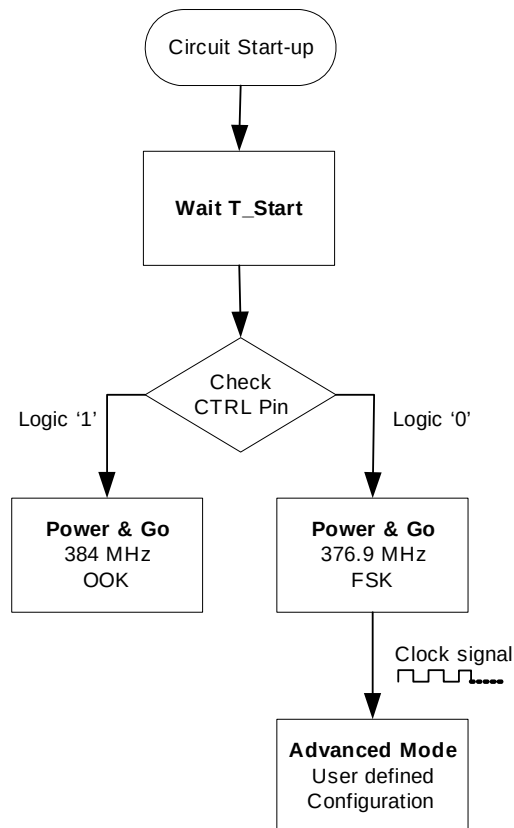

Figure 3. SX1241 Mode Selection
The SX1241 has two application modes. These are selected depending upon the load presented to the Control pin (6) at power-on of the device, as shown on Figure 3. By connecting the Control pin to logical '0' or '1' the 'Power & Go' mode is selected. A full description of operation in this mode is given in Section 3.1. By presenting a logical zero to the Control input, Advanced mode can be accessed by subsequent clocking of the control pin, in conjunction with the Data pin (2) permits programming of the SX1241 configuration register and manual control of the transmitter. For more information on Advanced Mode operation please consult Section 3.2. The diagram below summarises the mode selection process.
Advanced mode can be accessed as described on Figure 3. Programming is performed via a two wire interface (TWI) formed by CTRL and DATA pins.
When powering up the circuit (microcontroller and SX1241), the logic level of the CTRL pin is sampled after T_START , as described on Figure 3. During T_START , the microcontroller IO driving the CTRL pin must be configured as an output, driving the CTRL pin to the desired state.